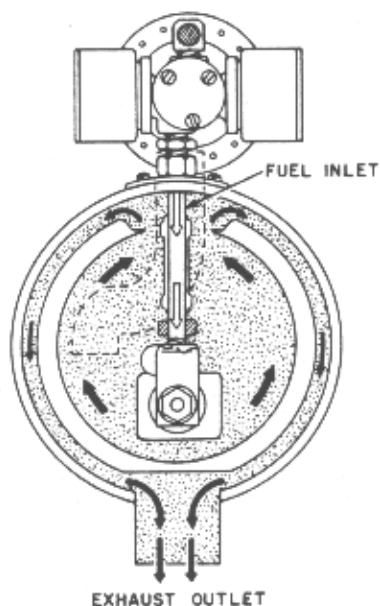

Figure 20—Flow System (End View)
1. The resultant gases from the burning in the combustion chamber pass through the central chamber and around the outer chamber to the exhaust tube, where they are deflected away. As the hot gases flow through these passages, they dissipate their heat through the stainless steel walls of the heat exchanger (Figure 20).